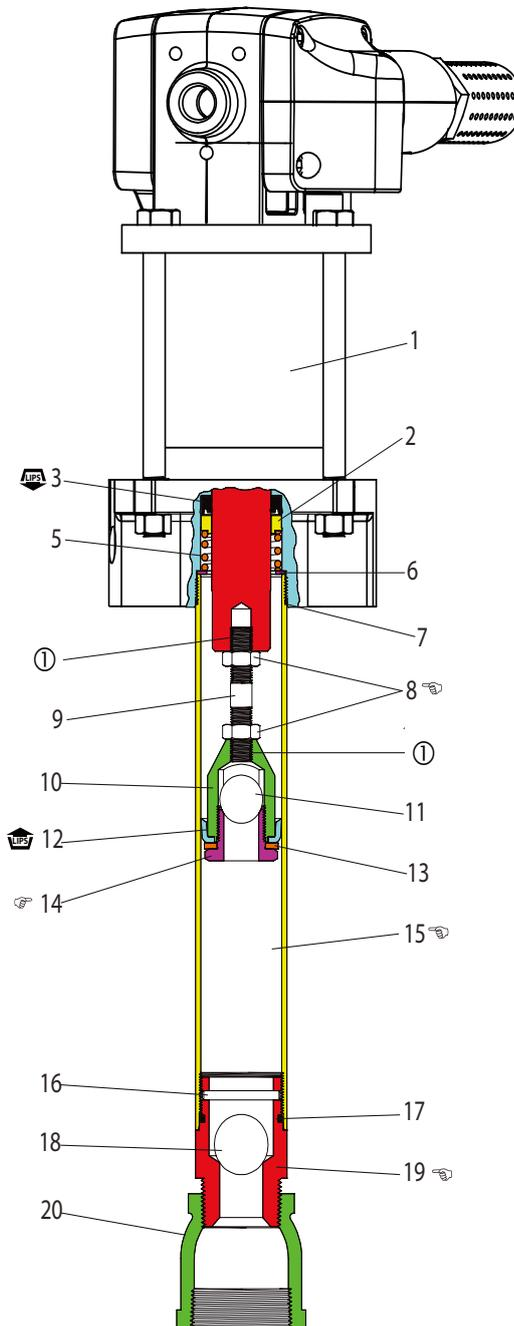

Figure 3
- Assemble (3) seal, (2) spacer, (5) spring and (6) washer into cavity in bottom of motor. **NOTE:** Refer to figure 3, page 4 for packing lip direction.
- For AF0409A13XXXX: Assemble nut and piston rod and components to motor rod, tightening nut against motor rod. Apply Loctite 242 to threads of piston rod before assembly. **NOTE:** Tighten nut to 60 - 70 ft lbs (81.3 - 94.9 Nm) refer to figure 3, page 4.